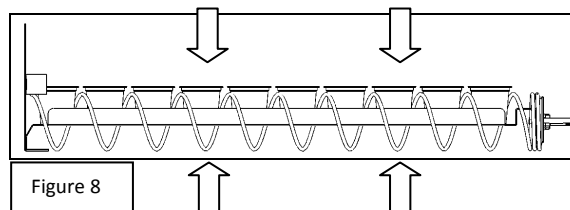

Figure 8
8. From the base of the tray to the top of the K-Cup should all be at the same height (See Fig. 8)
9. Re-Install the spiral back into the tray selection at 12 o'clock position as shown (See Fig. 8)